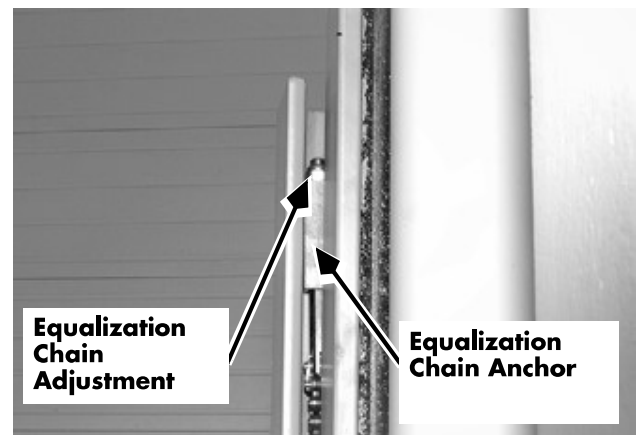

Figure 7-272: Equalization Chain Adjustment
2. The adjusters are located near the top of the main mast, between the mast main frame and the outer telescopic. See Figure 7-272. To adjust the equalization chains, turn the chain anchor locknut until the outer telescopic starts to move, then loosen the nut one-half turn. Repeat this step for the other side.